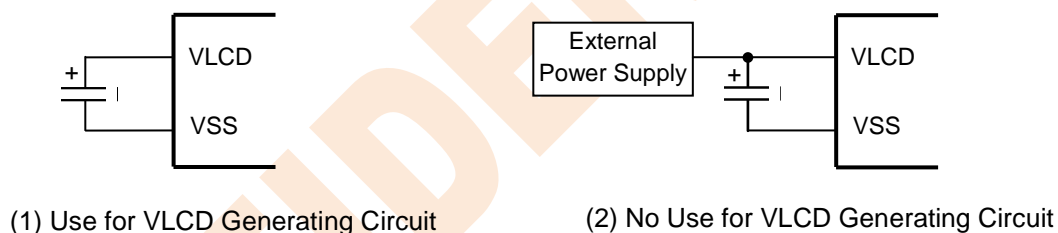

Figure 6.25 Boosting Pin Connection of Booster
- (1) In case of using VLCD generating circuit (Setting 1 in Table 6.15)
The external capacitor between VLCD and VSS must be connected. Refer to Figure 6.25 (1).
- (2) In case of supplying VLCD from external without using VLCD generating circuit (Setting 2, 3 in Table 6.15)
The external power supply must be input to VLCD and the external capacitor between VLCD and VSS must be connected. Refer to Figure 6.25 (2).